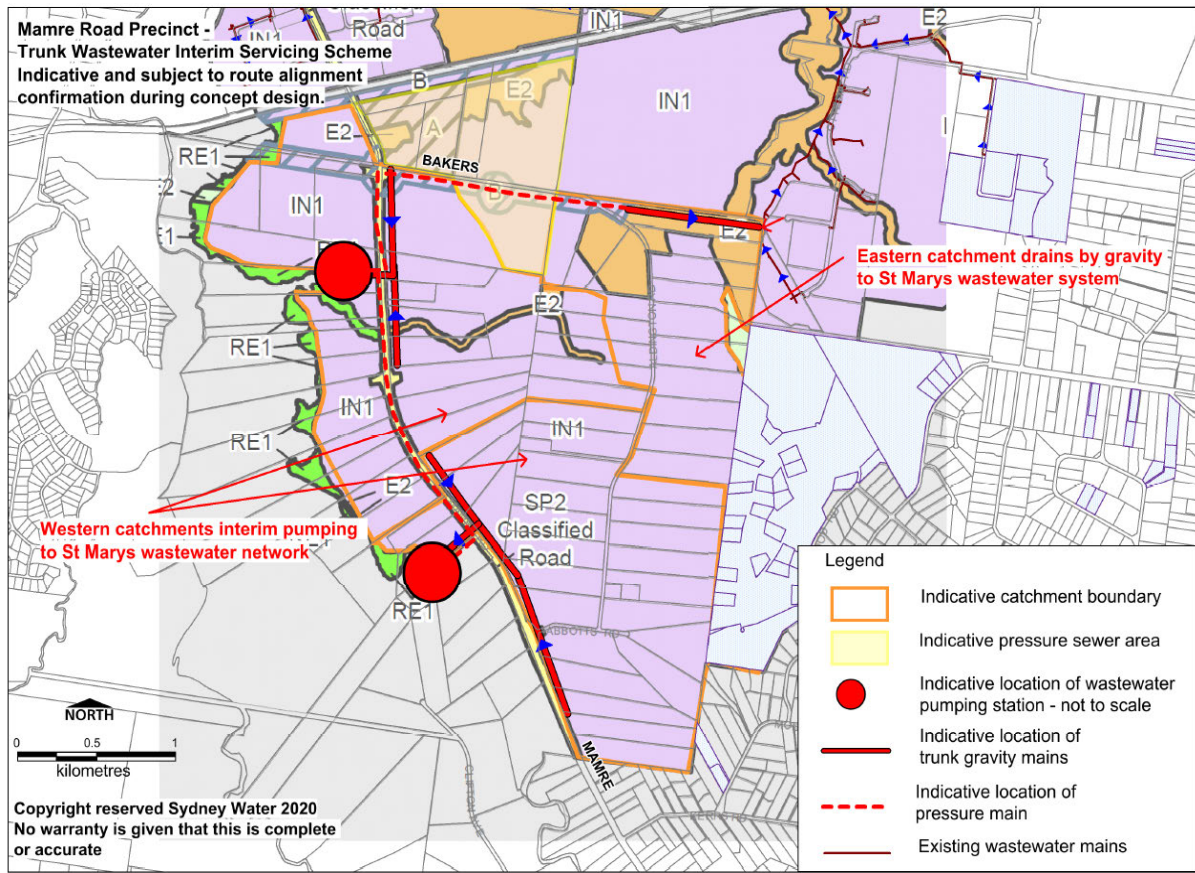

Figure 5: Sydney Water Mamre Road wastewater servicing strategy
- Your development is located within the western catchment of the Precinct, and will drain to a proposed wastewater pumping station (anticipated to be delivered by 2023/24) which would transfer flows to St Marys until 2026, after which flows would transfer to the new Upper South Creek AWRC. **(Figure 5)**